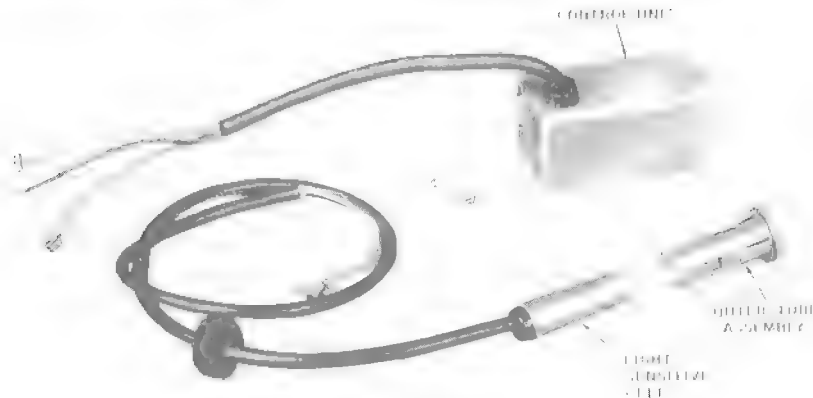

Fig. 1—KS-19261, List 1 Light Control Unit
2.03 The KS-19261, List 1 light control unit (Fig. 1) is used in outdoor booths equipped with a KS-19207 light and blower unit.
- (e) Insert outer tube assembly (Fig. 1) through 11/16-inch hole in roof from outside until tabs lock behind edge of hole (Fig. 7).